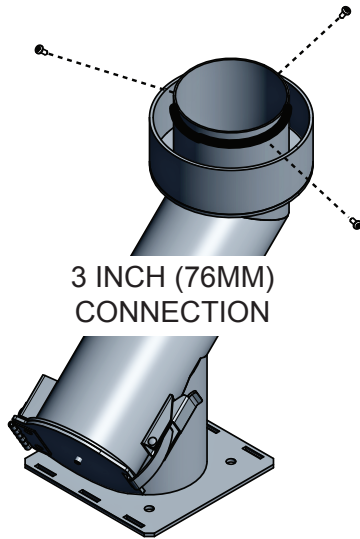

Figure 3
2. Insert venting into Vent Adapter (C1) into the pipe venting. Using the electric drill and #26 drill bit (C3), drill 3 holes through the venting and the Vent Adapter. Secure the venting to the Vent Adapter with the 3 screws (C2) (Figure 3 & 4).